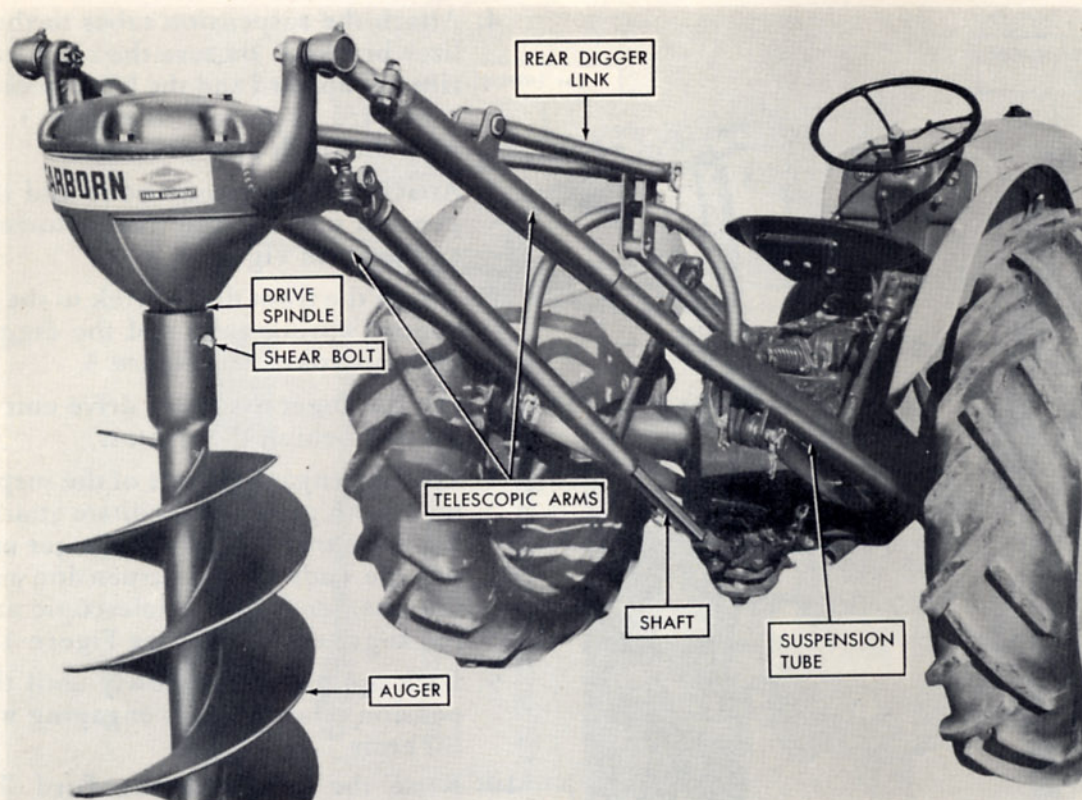

Figure 4
8. Coat the engaging ends of the suspension tubes with grease to facilitate attachment. Back the tractor up to the auger unit and put the ends of the suspension tubes in the open ends of the telescopic arms on the auger drive unit. See Figure 4.
11. Attach the front ends of the right and left rear digger links to the upper end of the yoke hinge and the rear ends to the brackets on the telescopic tubes as shown in Figure 4.
13. Fit the auger on the drive spindle and secure with the shear bolt. See fig. 4.
15. Remove the tractor power take-off cap and attach the universal joint to the power take-off shaft. Secure with the bolt and nut provided. The Post Hole Digger is now completely assembled and attached to the tractor as shown in Figure 4.